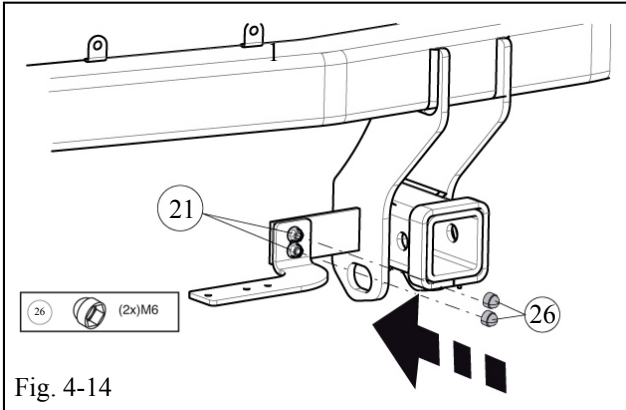

Fig. 4-14
NOTE: Sequence number 15, Item 21, is on the next page (Fig. 4-14).
- (i) Install the 2 nut caps (Item 26) on the 2 nuts (Fig. 4-14).